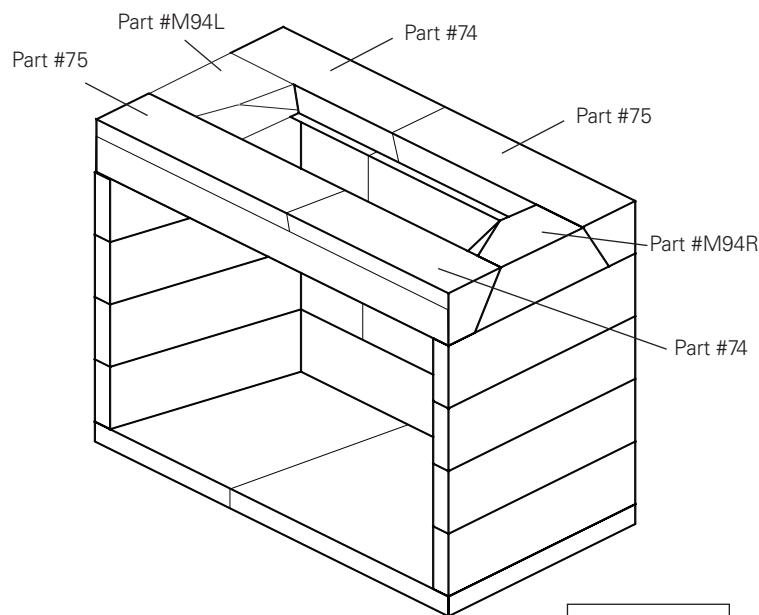

FIGURE 21
The four (4) lintels when part# 74 and part# 75 are put together they will be equal to the width of the fireplace model that they serve. Properly placed, the lintel is to sit on top of the firebox back wall and flush with it; the other lintel sits flush with the front of the firebox, spanning the firebox opening. These components both sit on their narrow base so that their beveled face points down and into the firebox interior. **(Figure 21)**